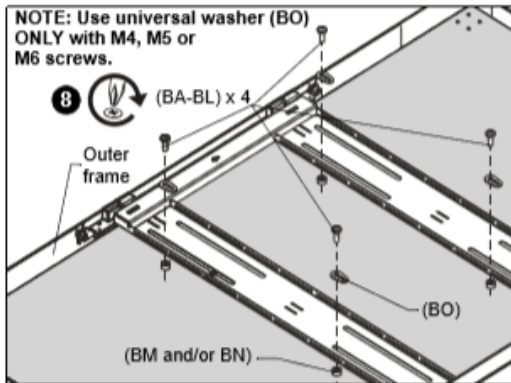

Figure 7
**IMPORTANT ! :** The M8 screws do **NOT** require a washer. Use the universal washer (BO) **ONLY** with the M4, M5 or M6 screws.
7. Place hinged frame onto back of flat panel and match the VESA pattern on flat panel to the hinged frame mounting slots. Also match the threaded studs in outer frame to the hooks on the hinged frame. (See Figure 7)
8. Use selected screws (BA-BL), washers (BO--if required), and spacers (BM, BN--if required), to connect hinged frame to back of flat panel. (See Figure 7)